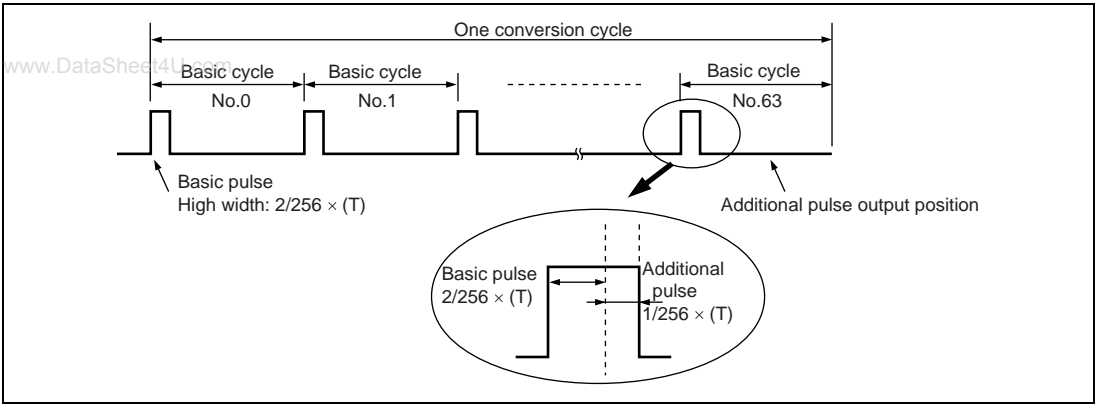

Figure 10.6 Output Waveform when DADR = H'0207 (OS = 1)
Here, the case of DADR = H'0207 (B'0000 0010 0000 0111) is considered. Figure 10.6 shows an output waveform. Because CFS = 1 and the value of upper eight bits is B'0000 0010, the duty ratio of the basic pulse is 2/256 × (T) of high width.